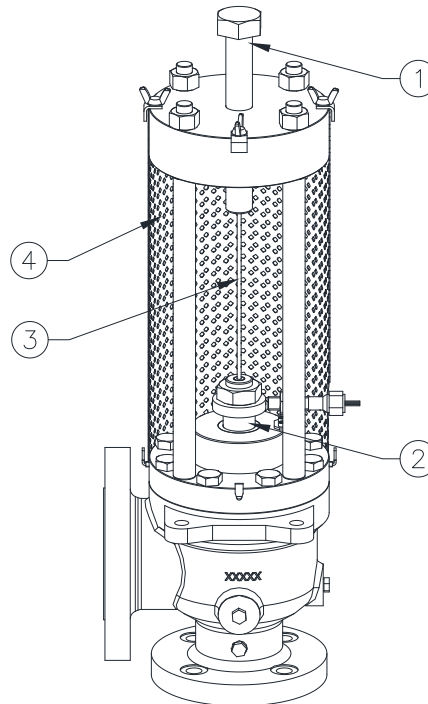

Figure 8: New Buckling Pin Installation
Buckling Pin Installation (Refer Figure 8)
2. Remove protective screen cover (See Figure 8, Item 4).